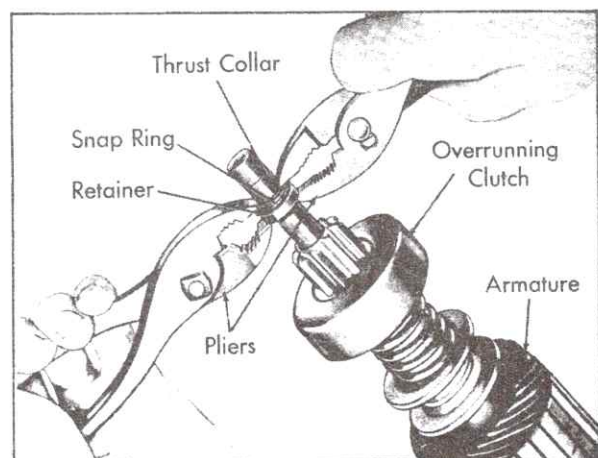

Fig. 6-18 Installing Snap Ring on Retainer
e. Assemble thrust collar on shaft with shoulder next to snap ring, Fig. 6-18.
f. Position retainer and thrust collar next to snap ring. Using two pairs of pliers, grip retainer and thrust collar and squeeze until snap ring is forced onto retainer, Fig. 6-18.